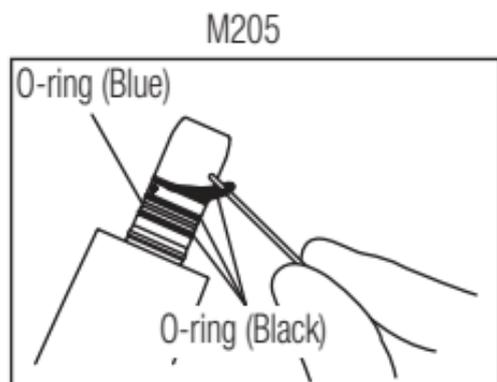
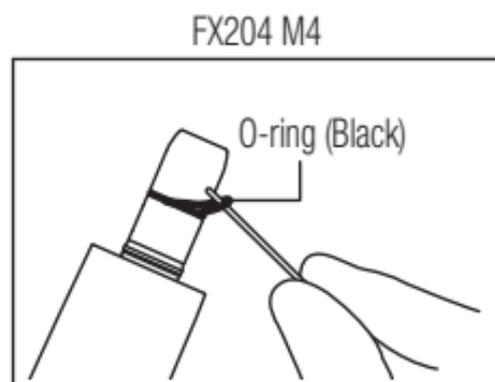

Fig. 18
Fig. 19
Using a needle or other pointed tool, remove defective O-rings from the motor insert section, and fit new O-rings into the O-ring grooves (Fig. 18 or Fig. 19).
- The blue O-ring is thinner than the 3 black O-rings. When inserting new O-rings, make sure they are inserted in the correct grooves as shown in the Fig. 18. (M205)